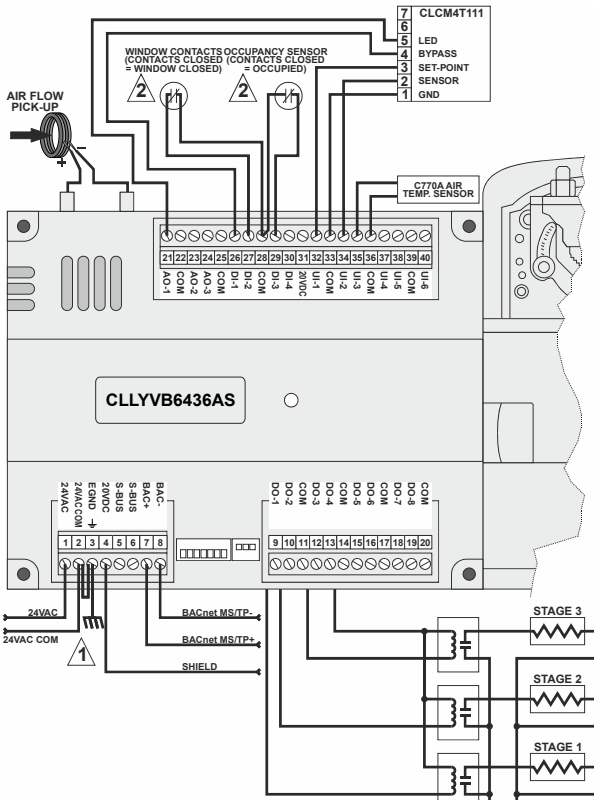

Fig. 14. Controller wiring diagram (CLLYVB6436AS shown) for typical VAV application with staged reheat
- Typical controller wiring for VAV application with staged reheat (see Fig. 14).